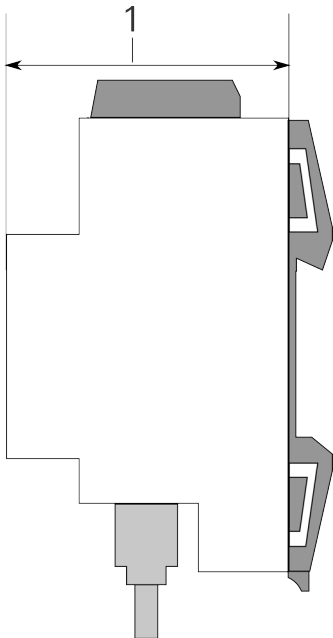

Figure 8: Device depth
Pay attention to the device depth (figure 8, pos. 1): DRA Plus, 74 mm.